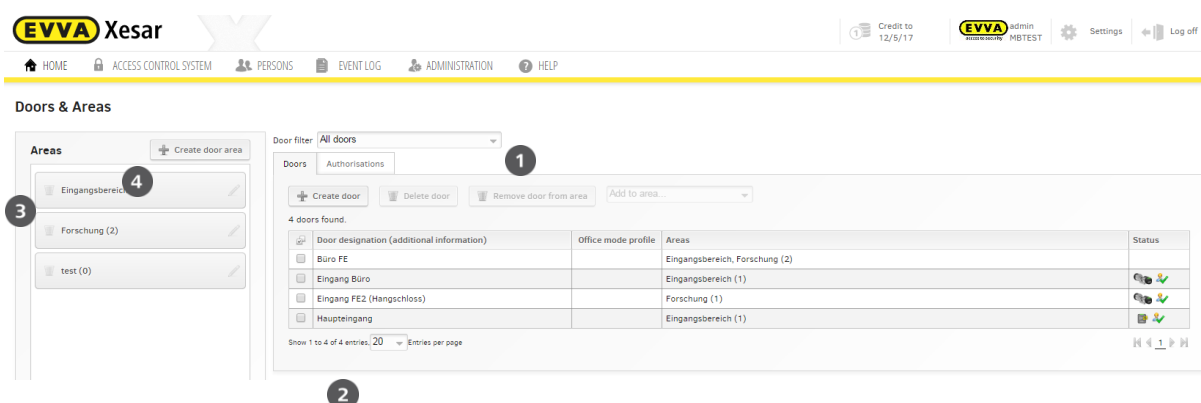

Figure 75: Doors and areas
In the **Doors & areas** section, click the corresponding selection ❶ (select by door) or ❷ (select by area) to open a list of doors and areas which have already been created in the Xesar software and view which doors have been assigned to which areas. You can also assign doors to areas in this section. Create areas to group several doors in categories and facilitate assigning authorisations to make the overall process more transparent. For instance, if you would like to grant one or more persons access to five individual doors, you can group these in an area. Subsequently, all you need to do is assign persons to the area to enable them to unlock the aforementioned five doors. You can create a maximum of 96 areas. It is possible to assign doors to several areas. (Figure 75: Doors and areas)
- Click **Create door area** ❹ (Figure 75: Doors and areas).